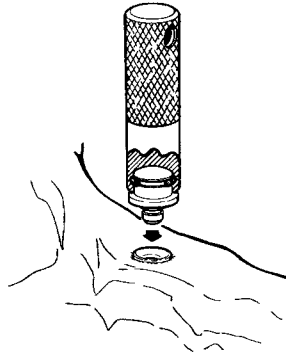

Fig. 1
2. Insert a ZAAG Denture Cap Male (metal housing side first) into the ZAAG Male Placement Tool. Use the tool to snap a male into each female. (Fig. 1) Check each male for proper retention, and to make sure the centering sleeve seats firmly against the top of the female, maintaining the male in the center of the flared opening.